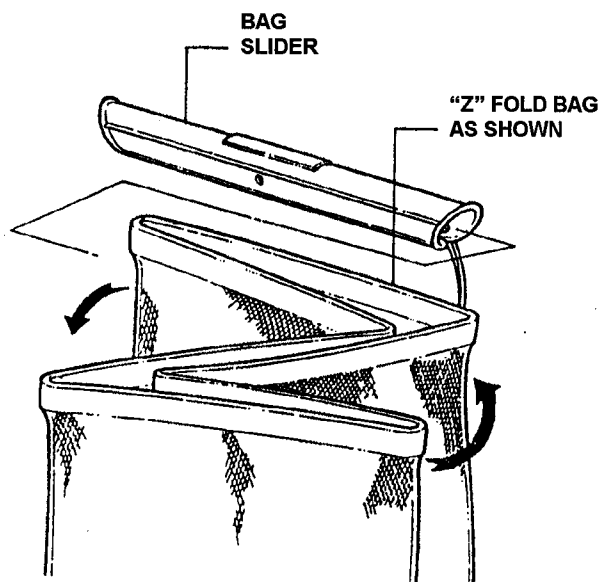

FIGURE 4
STEP 4: Adapter must be installed first, before grass bag can be installed. Install the top wire to the grass bag. Tie the bag slider to the top wire. Fold bag opening into a "Z" and pull bag into slider. See Figure 4.